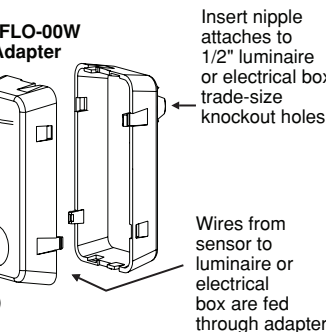

Figure 2B
ADAPTER NOTE: For deep bodied luminaires or to clear other obstructions use Leviton's OSFOA-00W Adapter (**refer to Figure 2A**). The Adapter is designed to provide multiple mounting positions to accommodate different mounting heights for optimum sensor positioning (**refer to Figure 2B**). Provided is a keyed, threaded snap-in nipple that holds the Adapter in place while tightening the provided lock-nut. If the Adapter is needed, go to **ADAPTER INSTALLATION** section. The OSFLO is a single height position adapter with a quick install snap in fitting without a lock nut (**refer to Figure 2B**).
1. Position one half of the Adapter body on the end of the luminaire to determine the appropriate mounting hole to be used on the Adapter that will position the sensor for optimum coverage. The bottom of the sensor should be at or below the luminaire body (**refer to Figure 2B**).